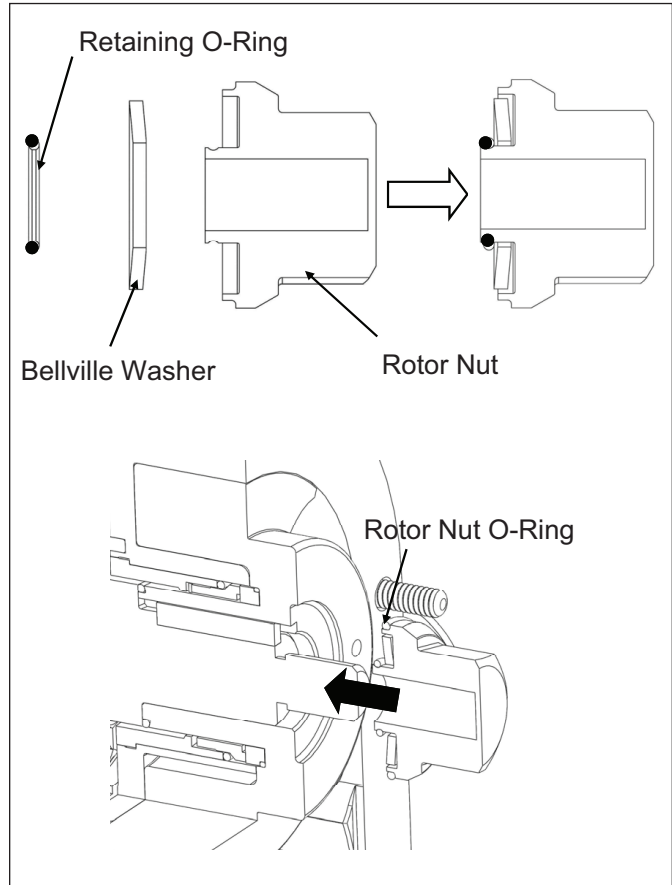

Figure 32. Rotor Nut Assembly
- 6. Install the Bellville washers in the rotor nuts in the orientation shown and hold them in place using the small retaining o-rings (Figure 32). Install a rotor nut o-ring before threading the nut onto the shaft.